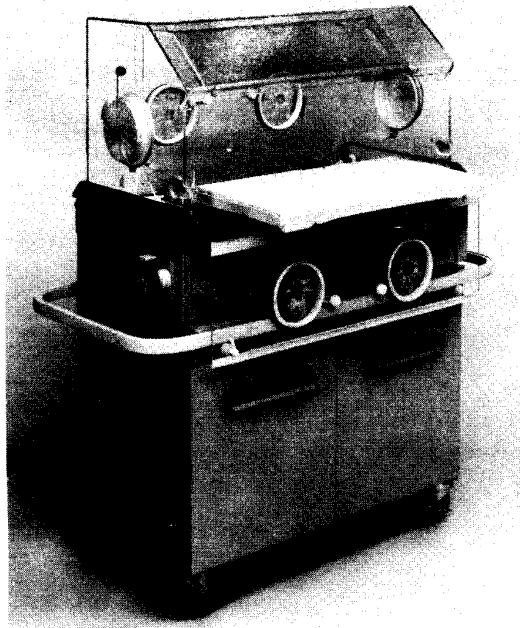

FIGURE 2.5 MATTRESS TRAY OPERATION
10. CHECK MATTRESS TRAY by sliding it out to the fully extended position as shown in Figure 2.5. Lean on Mattress Tray; make sure it is properly supported by the rails and baffles to provide a firm infant platform.